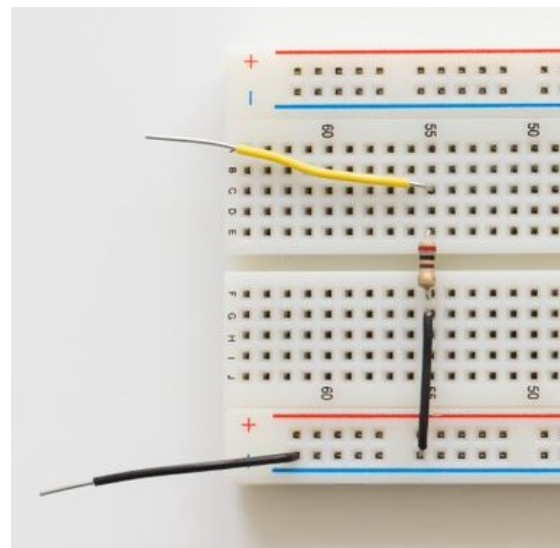

Figure 1.1a - AD2 with WaveGen Ch 1 (Yellow)
- a. **Attach** another wire to the "1+" pin as well. This will be the probe for the oscilloscope. This setup is shown in Figure 1.1a.